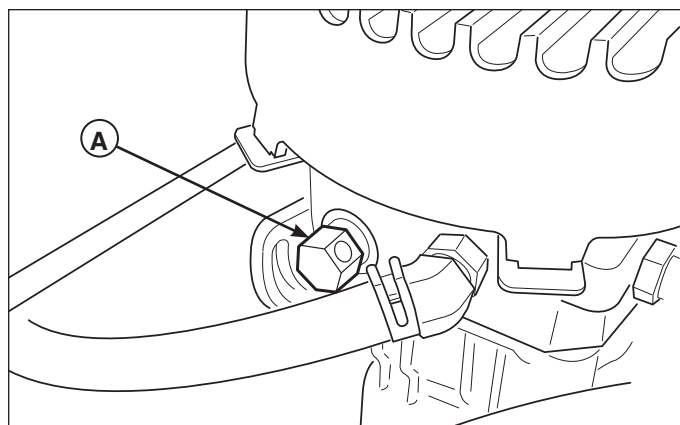

Figure 1. Hydraulic System By-Pass
3. Open the hydraulic release valves. To open the release valves, turn the release valve, which is located on front of the pump, counter-clockwise 2 full turns **MAX**. See Figure 1 for valve location.